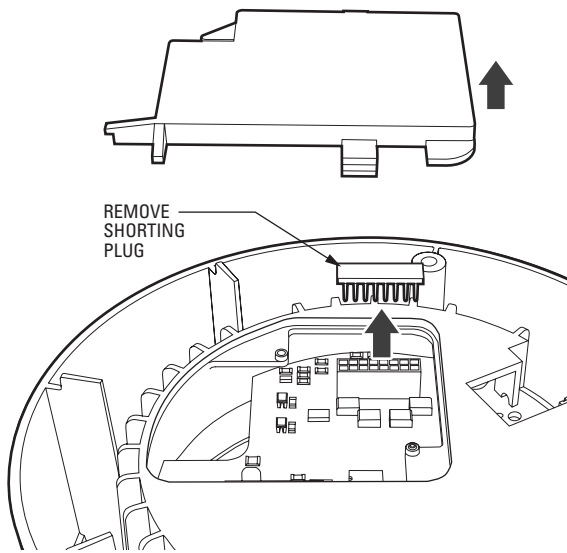
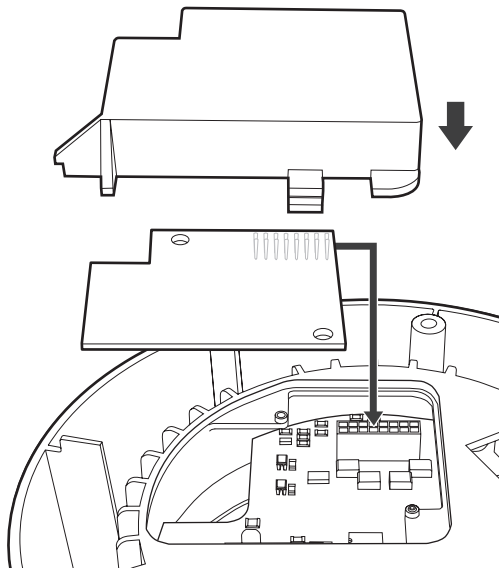

Figure 14. Removing the Mini Dome Cover and Shorting Plug
Figure 15. Installing the TXB-V and Mini Dome Cover
7. Install the TXB-V translator board (refer to Figure 14 and Figure 15 on page 16):